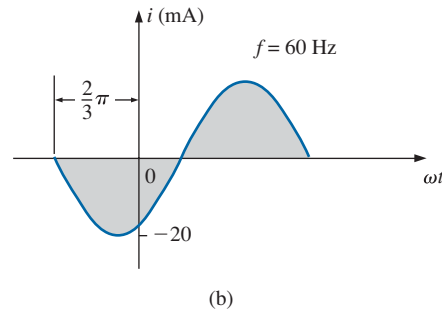

FIG. 13.91
29. Write the analytical expression for the waveforms of Fig. 13.91 with the phase angle in degrees.